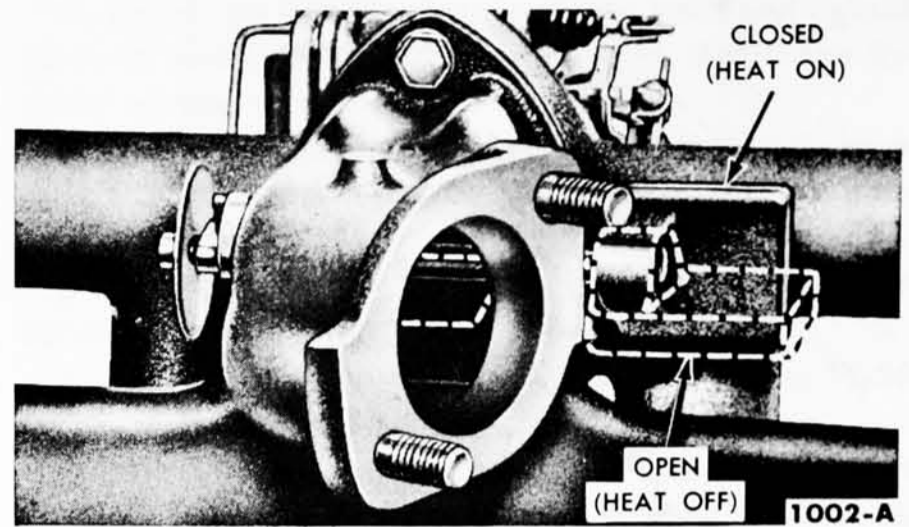

Fig. 11—Exhaust Gas Control Valve
7. Insert the shaft through the bushings and valve plate. Rotate the shaft in the valve plate until the counterweight is in the normal "up" (heat on) position (Fig. 11).